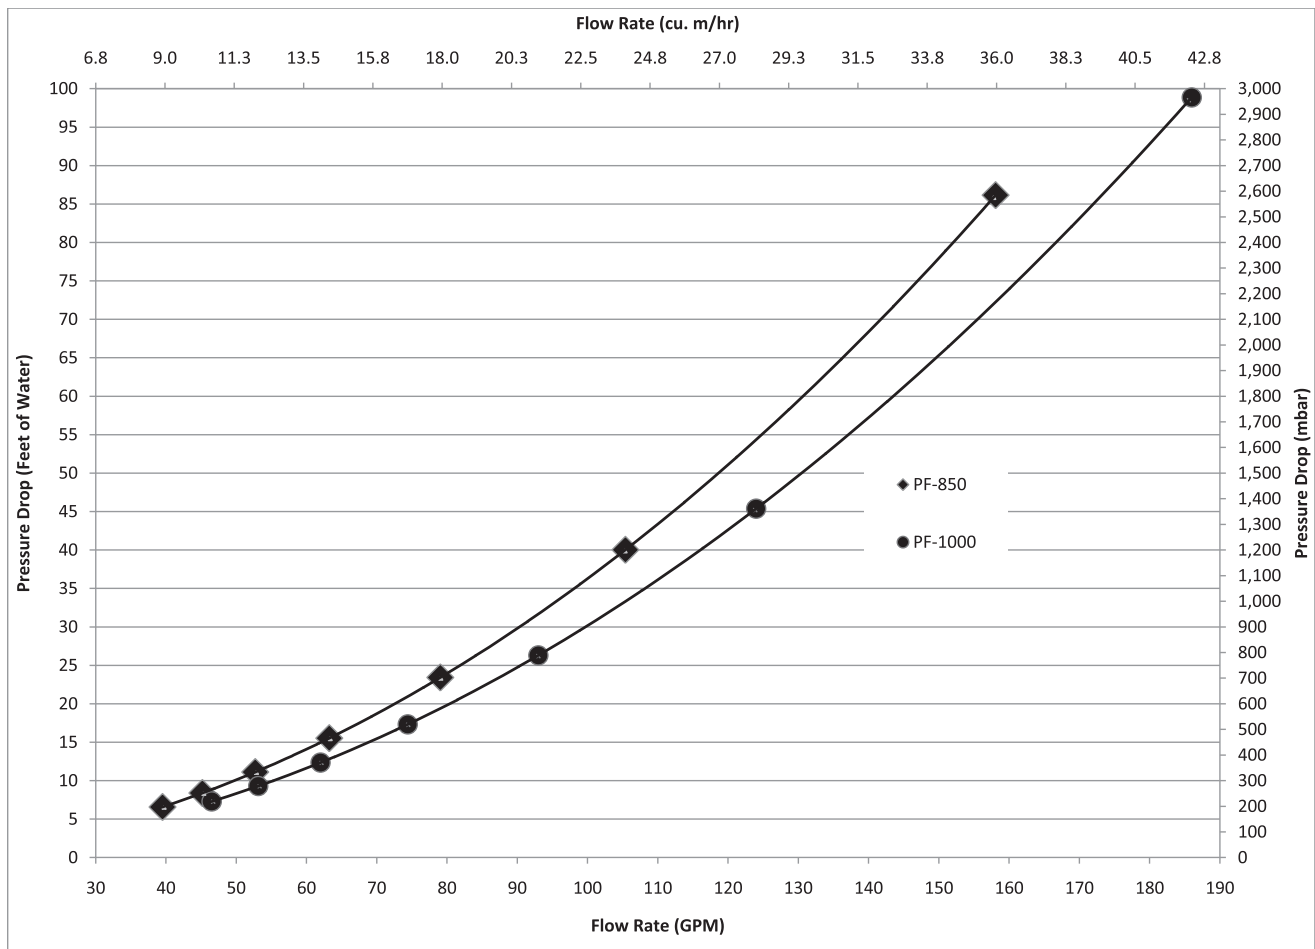

Figure 4.3: PUREFIRE® Circulator Sizing Graph (General Pump – Primary/Secondary)
- d. The boiler pressure drop for various flow rates can be determined using Figure 4.3, the PUREFIRE® PF-850/PF-1000 Sizing Graph.